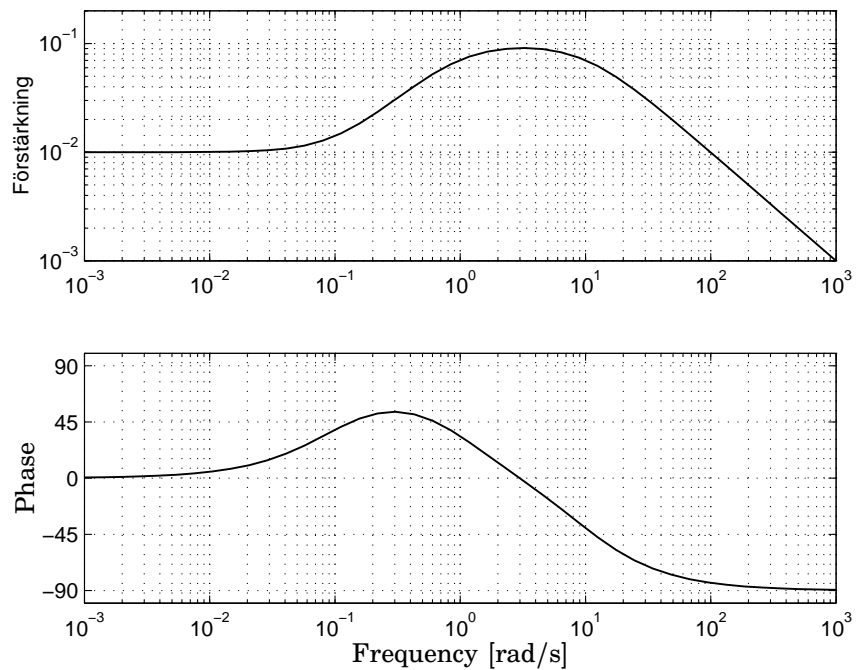

Figure 3.1 The Bode plot in assignment 3.7.
b. The Bode plot of the system is shown in figure 3.1. Determine the output $y(t)$ by using the Bode plot instead.